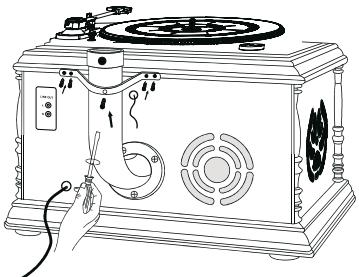

Fig. 7.
6. Look at **Fig7**. Match the holes on the U-type (B) bracket according with the holes on the RTCC411RIP host cabinet as shown. Rotate clockwise four screws D(H) into the holes on the sides and one screw B(F) into the middle and tighten.